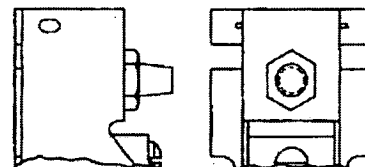

Fig. 4 — Drawing showing factory sealed setting.
3. Factory sealed setting (Fig. 4).